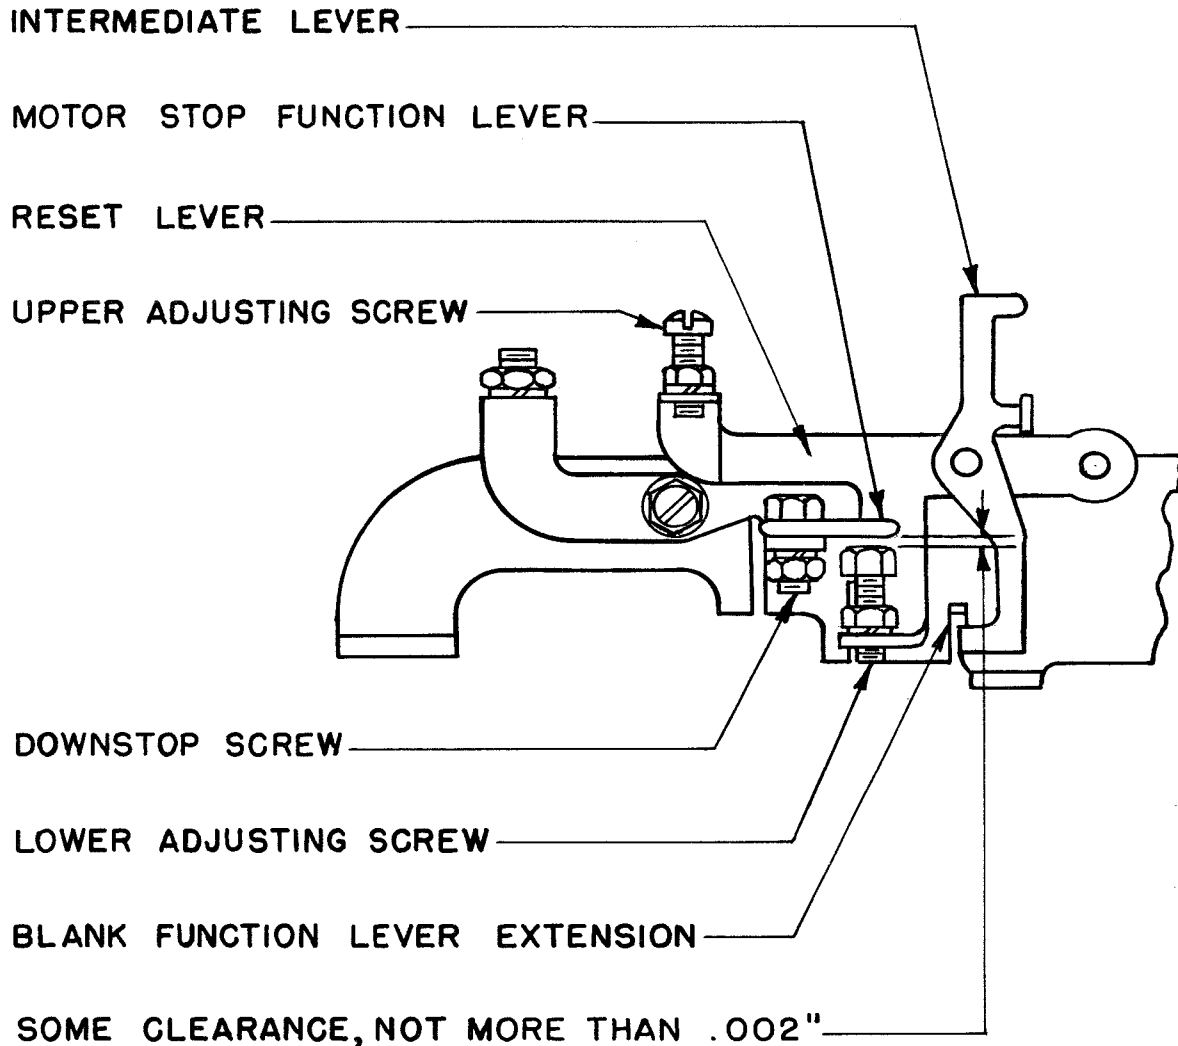

Figure 56
2.131 Send-receive Reset-lever Lower Adjusting-screw should clear the motor-stop-function lever's front extension by not more than 0.002 inch when (1) the platen is in the LTRS position, (2) the motor stop combination is selected, (3) the motor is rotated until the printing bail is in its extreme forward position, and (4) the send-receive lever is in the send position. See Figure 56.